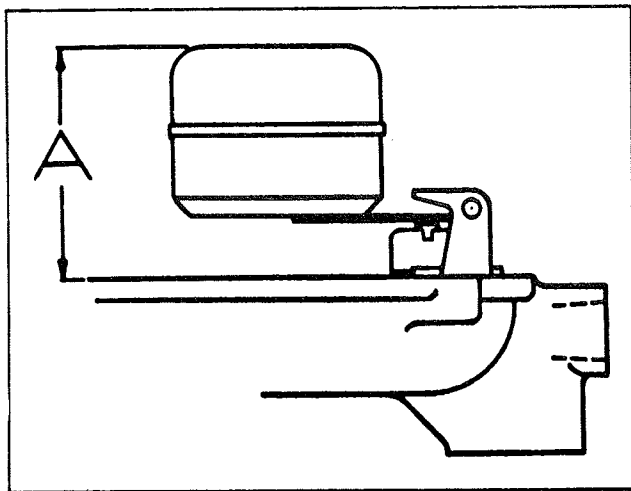

Fig. 6. Float Setting
13. To insure correct fuel level in the float chamber, check distance "A" from top of floats to machined surface of cover (no gasket) with throttle body inverted, see Fig. 6. This dimension should be